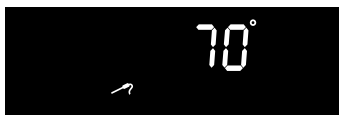

Figure 1: Probe set showing probe temperature
2. Plug the connector end of the probe all the way into the probe receptacle while the oven is still cool. The receptacle is located on the upper left front oven cavity wall (see figure 1, page 17).
3. When the probe is set, an acceptance tone will sound, the probe icon will illuminate, and the actual probe temperature appears in the display (see figure 1). Close the oven door.